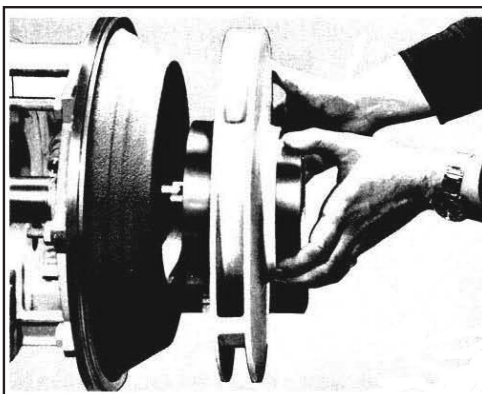

Figure 5 - Impeller Removal
3. Pull the impeller (4-002-0) from the shaft and remove the impeller key (4-911-0). (**Figure 5** Impeller Removal)